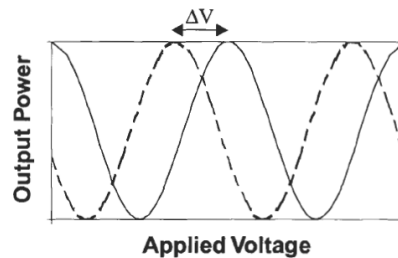
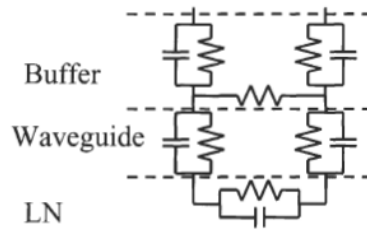

Figure 8: Output power of the modulator as the function of the driving voltage, with/without the DC applied voltage.
Figure 9:Equivalent RC circuit model of the MZM crystal electric structure, with vertical and horizontal components.
**DC drift** is the optical output power variation under the constant DC bias voltage application. Figure 8 shows the output power of the modulator as a function of the applied voltage. The broken line shows the output power as a function of applied voltage when only AC voltage is applied (and no DC is applied, at  $t = 0$ ) and the solid line shows the same, after  $t = t_1$ , when DC voltage is also applied in addition to the previous AC signal voltage. The shift between these two curves,  $\Delta V$ , is the measure of the DC drift.
The DC drift physical mechanism and its causes are not yet well understood. But this can be attributed to the ions movement, including  $\text{OH}^-$  ions, inside the Lithium Niobate substrate and the buffer layer. It is influenced by the balance of the RC time constants, in both horizontal and vertical directions in the equivalent circuit model, as is displayed in Figure 9. It was also found that the DC drift is more affected by the buffer layer. In the circuit model of Figure 8, all layers, including the  $\text{LiNbO}_3$  substrate, the  $\text{Ti:LiNbO}_3$  optical waveguide and the buffer layer, are represented in terms of resistances  $R$  and capacitances  $C$ , in both vertical and horizontal directions of the crystal.